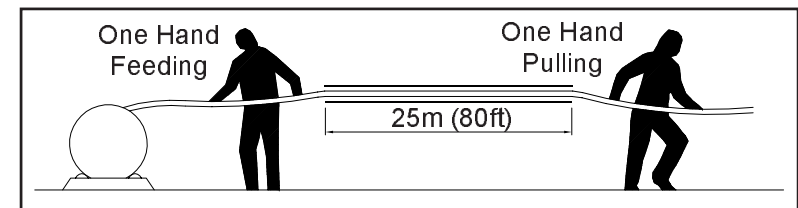

Figure 22
7. When feeding the sensor into the conduit, one person must feed it into the conduit to prevent the cut end of the conduit from damaging the jacket whilst another person pulls it through from the other end. See Figure 22.